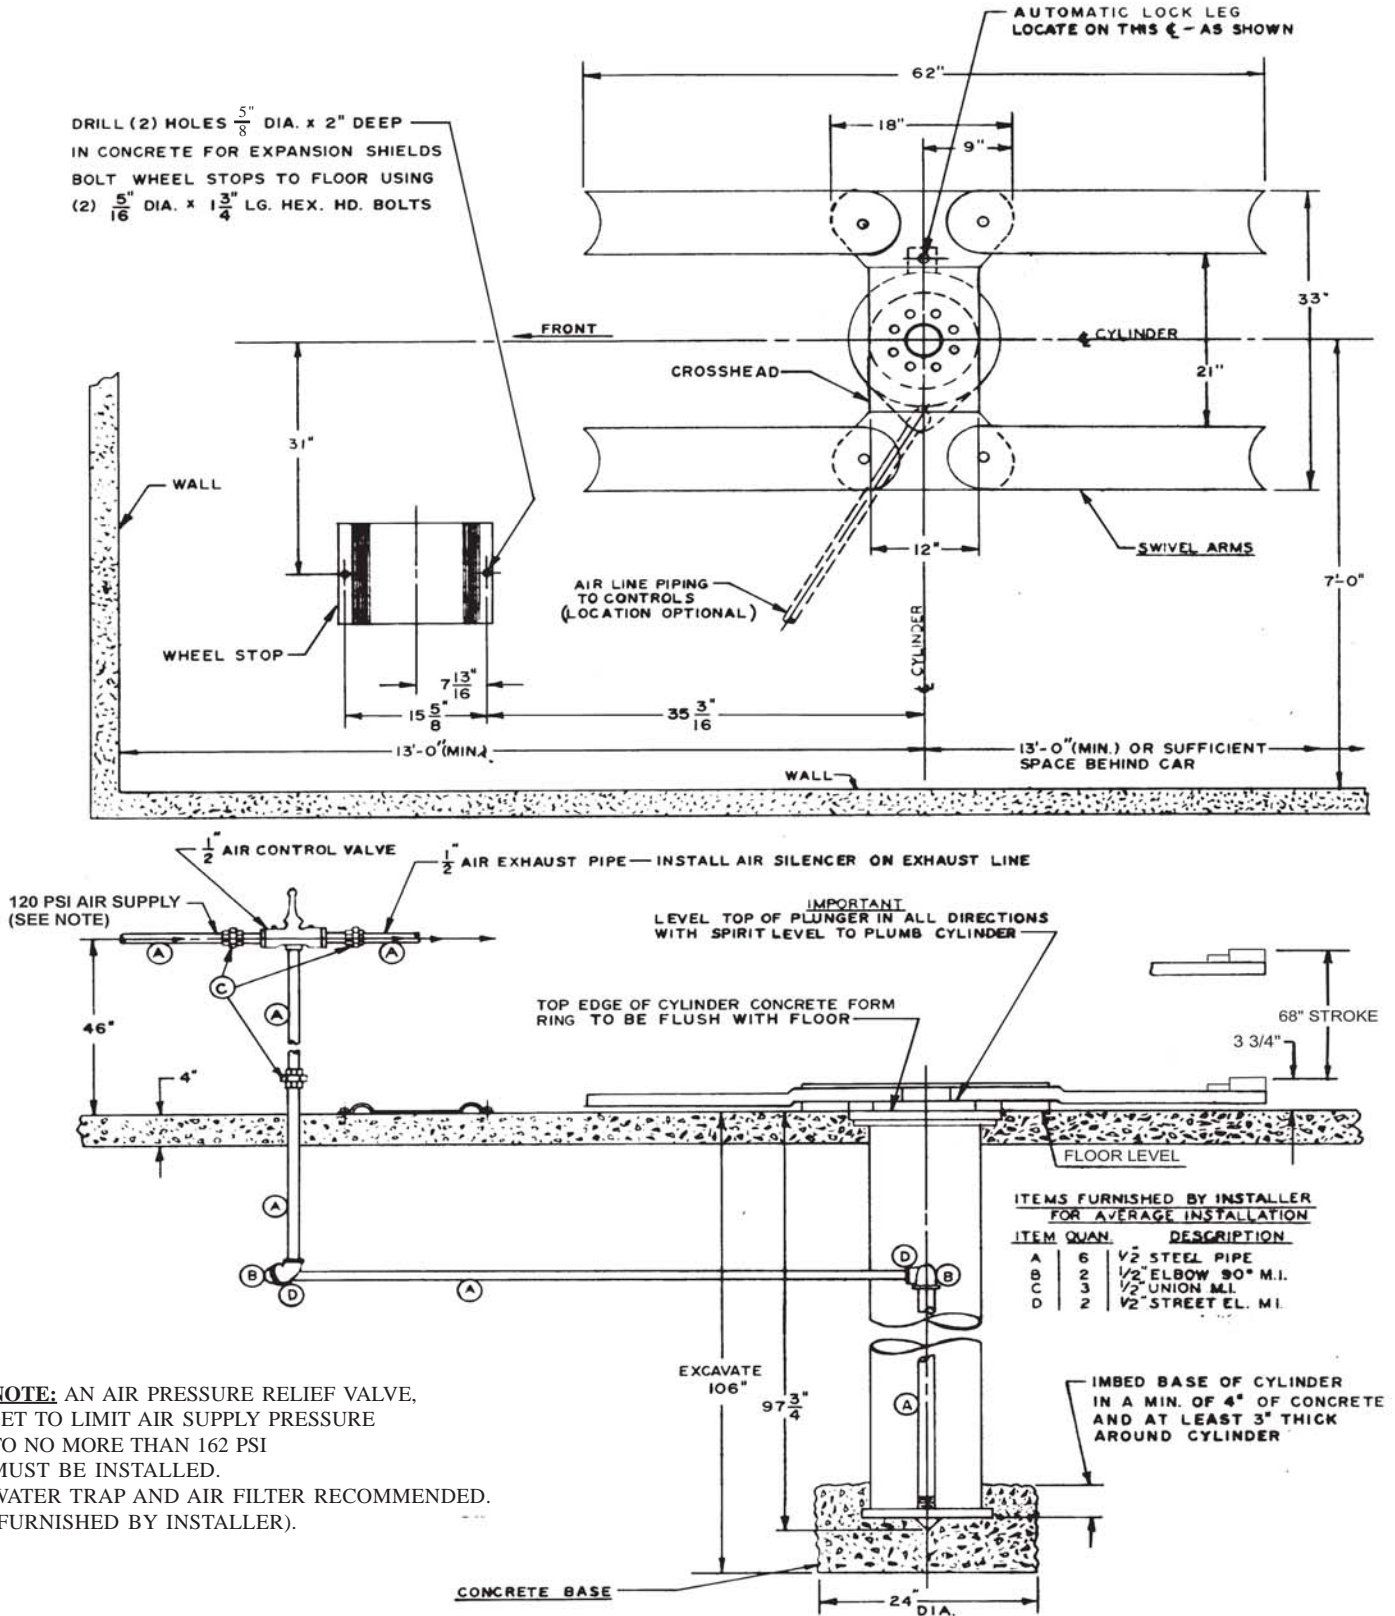

**FIG. 4
- B. Refer to Fig. 8 for Models A-1AA1B & A-1AA3B, or to Fig. 4 for mounting hole pattern only, of models A-1AN1B or A-1AN3B, since MANITOWOC LIFTS does not supply the superstructures for these lifts.
- C. For A-1AA1B & A-1AA3B Series lifts only. Position the crosshead (A) on the plunger by first locating the "fool-proof pin" in its proper location in the crosshead. Fasten the crosshead to the plunger, using (8) hex hd. bolts (B).
- D. Grease both sides and position swing arm washer (H) on crosshead anchor plate.
- E. Insert swing arm (J) into crosshead anchor plate (after applying grease to end of arm).
- F. Insert Pivot Bushing (L) and lock washer (K) into swing arm hole.
- G. Secure with bolt (M).
- I. Put Lift Adapter Assembly (N) on swing arm (J). Secure with lock washer (Q) and bolt (P).
- J. With lift still raised about 2 ft., fasten the inner post of the automatic lock (V) with bolt (C). Make sure all sides of inner post are parallel with sides of rectangular hole in cover plate.
- K. After tightening all bolts, install plastic plugs (R), (S), and (T) into proper places.
- C. For A-1AA1B & A-1AA3B Series lifts only. Position the crosshead (A) on the plunger by first locating the “fool-proof pin” in its proper location in the crosshead. Fasten the crosshead to the plunger, using (8) hex hd. bolts (B).
- D. Lubricate both sides of swing arm washers (H) with a multipurpose grease and position on crosshead anchor plate.
- F. Grease and insert pivot bushing (L) and lock washer (K) into swing arm hole.
- I. Put Lift Adapter Assembly (N) on swing arm (J).
- J. Secure with lock washer (Q) and bolt (P).